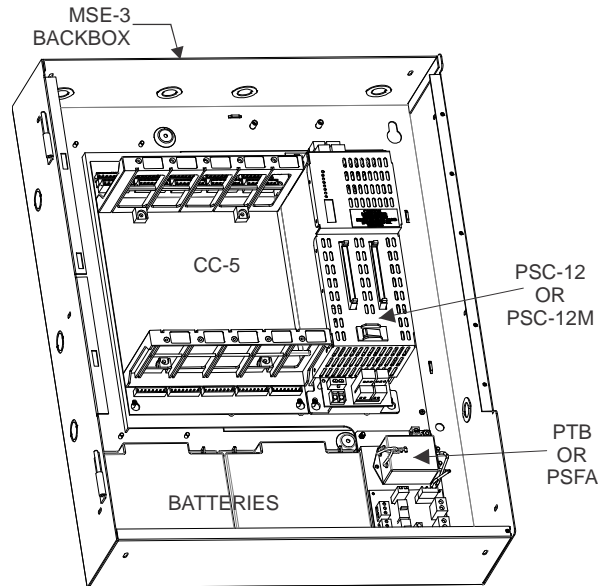

Figure 2
2. Install the required CC-5 system cardcage, PSC-12 or PSC-12M power supply, and PTB or PSFA power termination board after careful consideration of NEC Article 760 for separation of power limited and non-powered limited wiring. Refer to Figure 2. Use the hardware provided with those modules to mount them to the adapter plate. Refer to the CC-5 Installation Instructions, P/N 315-033035, the PSC-12 Installation Instructions, or the PSC-12M Installation Instructions, Document ID A6V12021370.